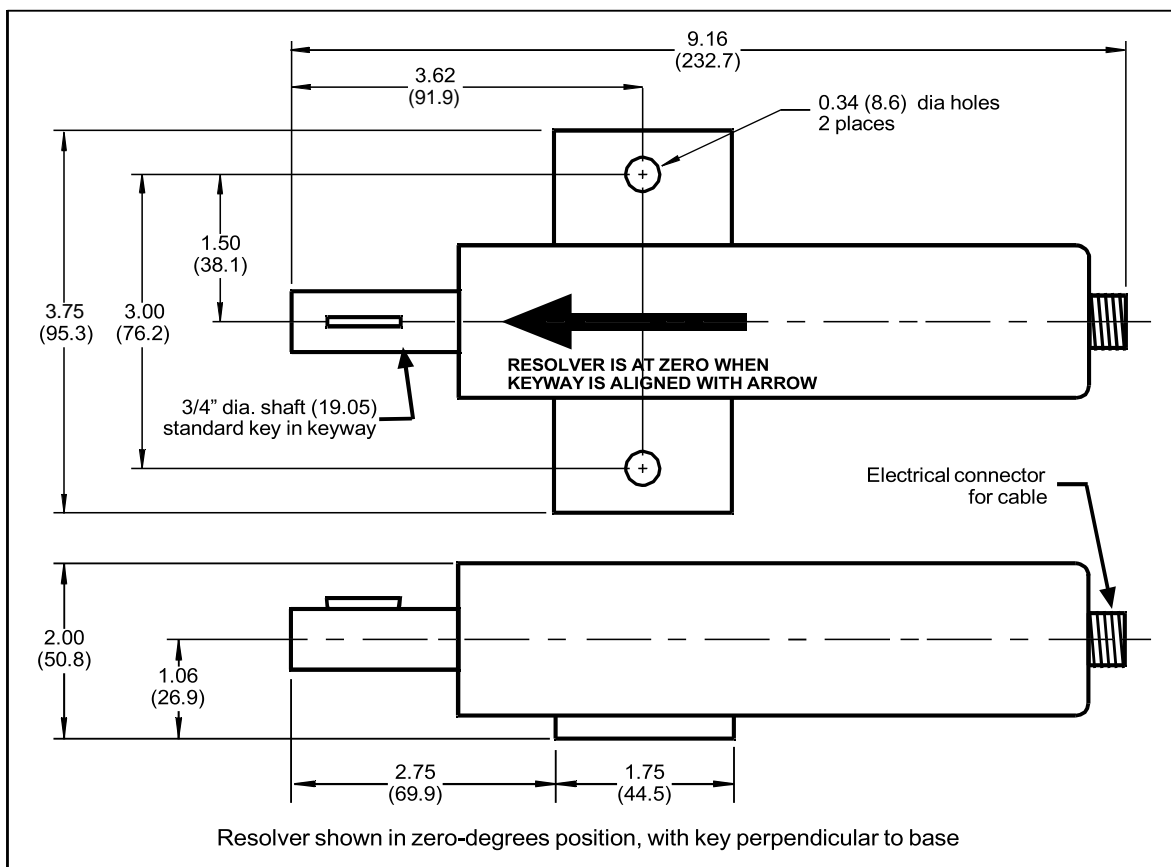

Figure 2-5. Resolver Dimensions
The resolver (see Figure 2-5 for dimensions) provides SmartPAC PRO with the exact position of the crankshaft at every angle throughout the stroke (see Resolver-based Operation in Chapter 1 of your SmartPAC PRO User Manual). To deliver this precision, the resolver must be driven smoothly at a 1:1 ratio with the crankshaft.
4. Before attaching the chain or other drive mechanism, rotate the resolver shaft so that the keyway is aligned with the arrow on the housing. See Figure 2-5.